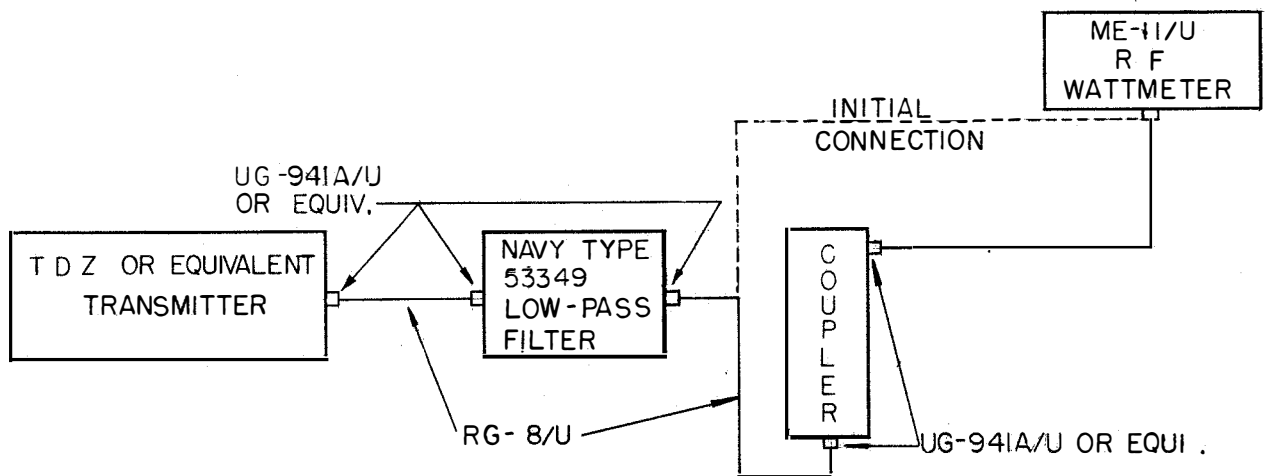

Figure 5-10. Interconnections for Tuning and Measurement of Insertion Loss by Use of RF Wattmeter
(3) BRIDGE MEASUREMENT OF INSERTION LOSS.--After the procedures of paragraph 2.b.(2) above have been carried through step 17, the amount of insertion loss introduced by the Coupler is indicated directly in decibels (db) on the meter of the 415A Detector. This is contingent upon the reading having been carefully set to zero in step 9. The insertion loss must not exceed -1.1 db. The measurements should be made at both ends of the frequency range of the coupler, namely, at about 231.4 mc and 389.8 mc, and at any other frequency that may have questionable efficiency. If the loss is excessive, check all external connections and cables for possible poor connections or according to paragraph 5.a.(1) of this section. Inspect all contacts and replace or replating any which are worn through the silver plating; see paragraph 5.a.(2) of this section for procedures.
(a) ALTERNATE MEASUREMENT OF INSERTION LOSS BY WATTMETER.--The insertion loss may also be measured in a practical simple, though less exacting way, by use of the Navy Type ME-11/URR Wattmeter. The correct procedure for using this instrument will be found in the instruction book for the Wattmeter, measuring the insertion loss essentially is loading the TDZ (or other) transmitter with the Wattmeter, through Navy Type CAWY -53349 Low Pass Filter and properly adjusting the transmitter for normal rf output at the desired frequency. The Coupler is then inserted between the Wattmeter and Low Pass Filter, and the Coupler tuned according to the applicable steps (see figures 5-10) of the regular tuning procedure (paragraph 2.a. (3) or (4) of this section), except that tuning is for maximum indication on the Wattmeter (This will normally coincide with minimum reading on the Coupler TUNING INDICATOR when the reflectometer adjustment in the Coupler is at optimum setting, but the Wattmeter reading is the standard in this case.) When properly tuned a normal Antenna Coupler will introduce some loss, but this must not exceed -1.1 db. In other words, the power out of the Coupler must be 77.5%, or more, of the measured transmitter power.